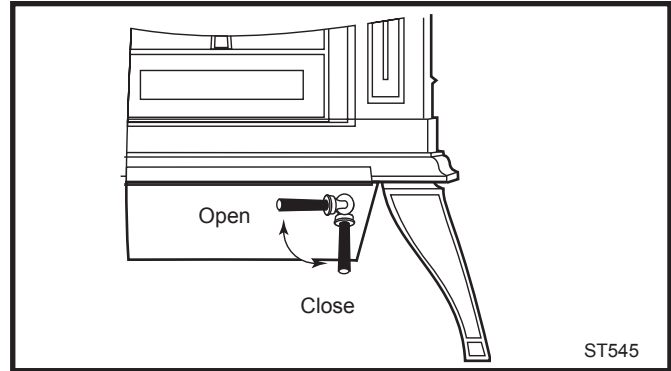

Fig. 34 Turn the ashdoor handle clockwise to open and counterclockwise to close.
- Close the griddle or doors, and unlatch the ash door. (Fig. 34) It will pivot, swinging the ash pan out of the stove.